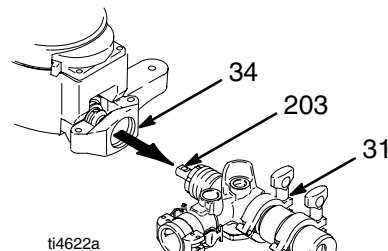

Fig. 11
11. Fig. 11. Unscrew pump (31) from bearing housing (34).
2. Fig. 11. Screw retaining nut (27) onto pump until it stops. Screw pump (31) into bearing housing (34) until pump stops. Unscrew pump until pump outlet is 13° from horizontal, but no more than one turn.